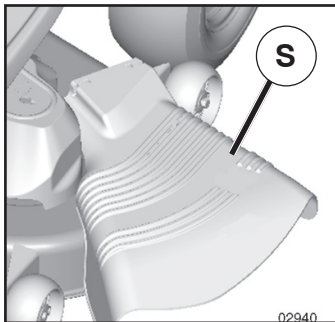

Fig. 23
**CAUTION:** Do not operate the mower without either the entire grass catcher, on mowers so equipped, or the deflector chute (S) in place (See Fig. 23).